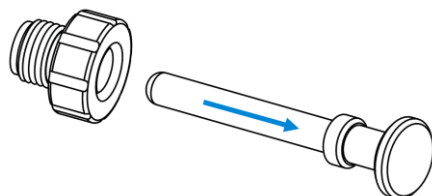

Figure 5 Push the shipping plug out of the locking nut
2. Push the shipping plug out of the locking nut. See Figure 5.